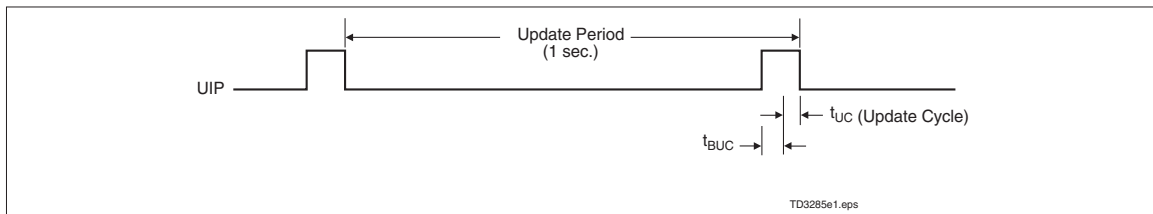

Figure 2. Update Period Timing and UIP
The update period for the bq3285LF is one second. The bq3285LF updates the contents of the clock and calendar locations during the update cycle at the end of each update period (see Figure 2). The alarm flag bit may also be set during the update cycle.
The update-in-progress bit (UIP) in register A is set  $t_{BUC}$  time before the beginning of an update cycle (see Figure 2). This bit is cleared and the update-complete flag (UF) is set at the end of the update cycle.